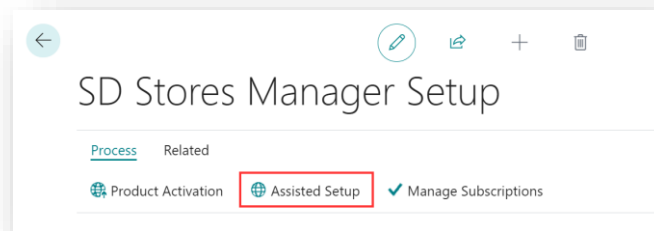

Figure 4-1
1. In the **SD Stores Manager** page, from the menu choose the **Process** group, and then **Assisted Setup** (*Figure 4-1*).